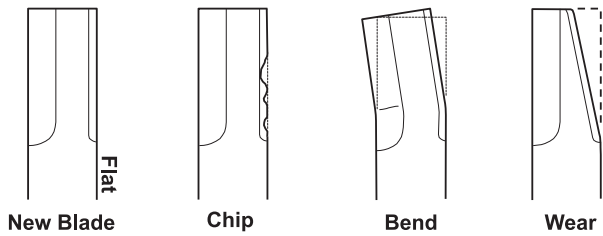
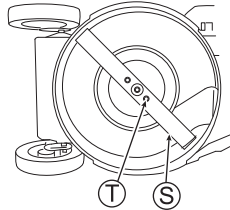

Fig. 34
Fig. 35
1. Confirm that there is no chip, bend, or wear with the blade (S). (See Fig. 34)
2. If the blade (S) or its blade mounting bolts (T) are "worn", "broken" or "deformed", exchange with new one(s) specified by us.
3. Confirm that the blade mounting bolts (T) are tightened by the specified torque. (See Fig. 35)
2. Fully tighten the blade mounting bolts (T) with hand.
4. Confirm that the blade mounting bolts (T) are tightened by the specified torque. (See Fig. 35)